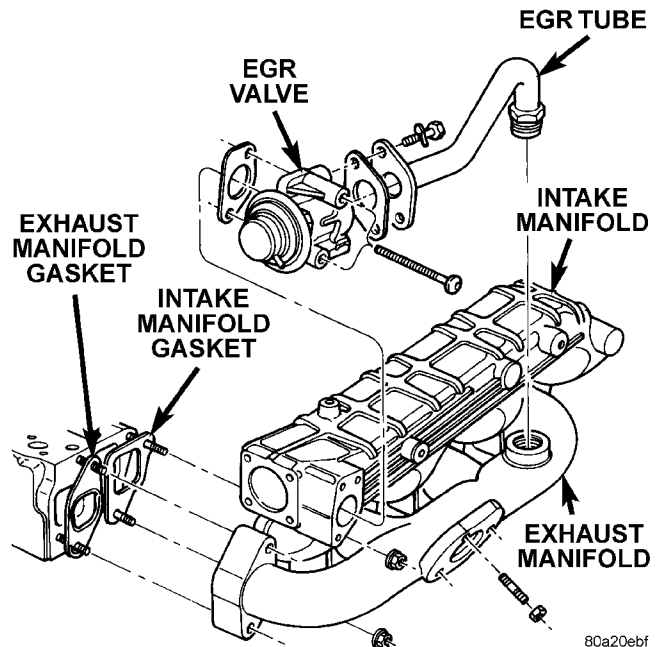

Fig. 2 EGR Valve and Tube Location
- An EGR valve assembly. The valve is located behind the intake manifold (Fig. 2).
- An EGR tube (Fig. 2) connecting a passage in the EGR valve to the rear of the exhaust manifold.
- (1) Remove the rubber hose from turbocharger to metal tube.
- (2) Disconnect vacuum line at EGR valve vacuum supply fitting (Fig. 2).
- (3) Loosen the tube fitting at exhaust manifold end of EGR tube (Fig. 2).
- (4) Remove the two bolts retaining the EGR tube to the side of EGR valve (Fig. 2).
- (5) Remove the two EGR valve mounting bolts (Fig. 2) and remove EGR valve.
- (6) Discard both of the old EGR mounting gaskets.
The EGR tube connects the EGR valve to the rear of the exhaust manifold (Fig. 2).
- (1) Remove rubber hose from turbocharger to metal tube.
- (2) Remove two EGR tube mounting bolts at EGR valve end of tube (Fig. 2).
- (3) Loosen fitting at exhaust manifold end of tube (Fig. 2).
- (4) Remove EGR tube and discard old gasket.
- (5) Clean gasket mating surfaces and EGR tube flange gasket surfaces.
- (6) Check for signs of leakage or cracked surfaces at both ends of tube, exhaust manifold and EGR valve.